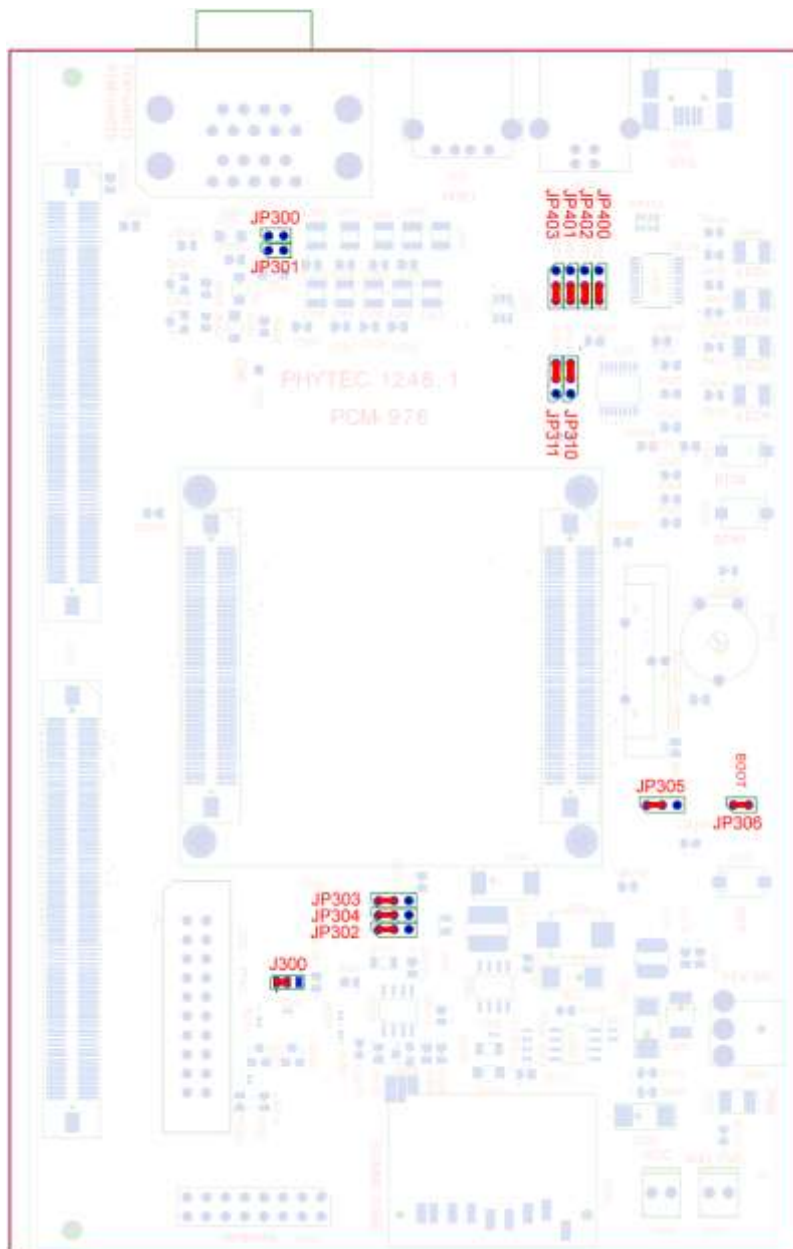

Figure 1: Default Jumper Settings of the phyCORE Carrier Board with phyCORE-LPC3180
| Figure 1: Default Jumper Settings of the phyCORE Carrier Board with phyCORE-LPC3180 ..... | 11 |
- Ensure proper jumper settings on the phyCORE Carrier Board as shown in *Figure 1*. All phyCORE-LPC3180 Carrier Board jumper settings can be referenced in the phyCORE-LPC3180 Hardware Manual section 13.1.1.